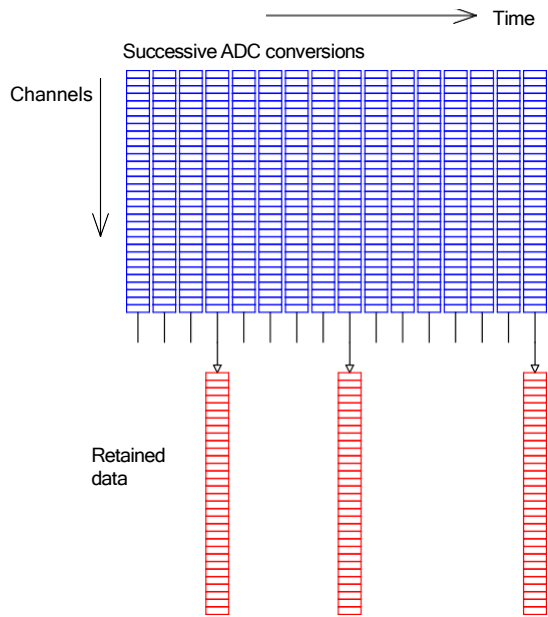

Figure 6. Data acquisition in internal mode; ADC rate exceeds capacity of communications / host computer
**Internal mode** is a simple free running acquisition. You can set the ADC conversion rate up to 1 MSa/s (1000000 Hz). This data rate will exceed the capability of the host system to absorb the data, so you would expect to see gaps in the data record (figure 6). You can reduce the sample